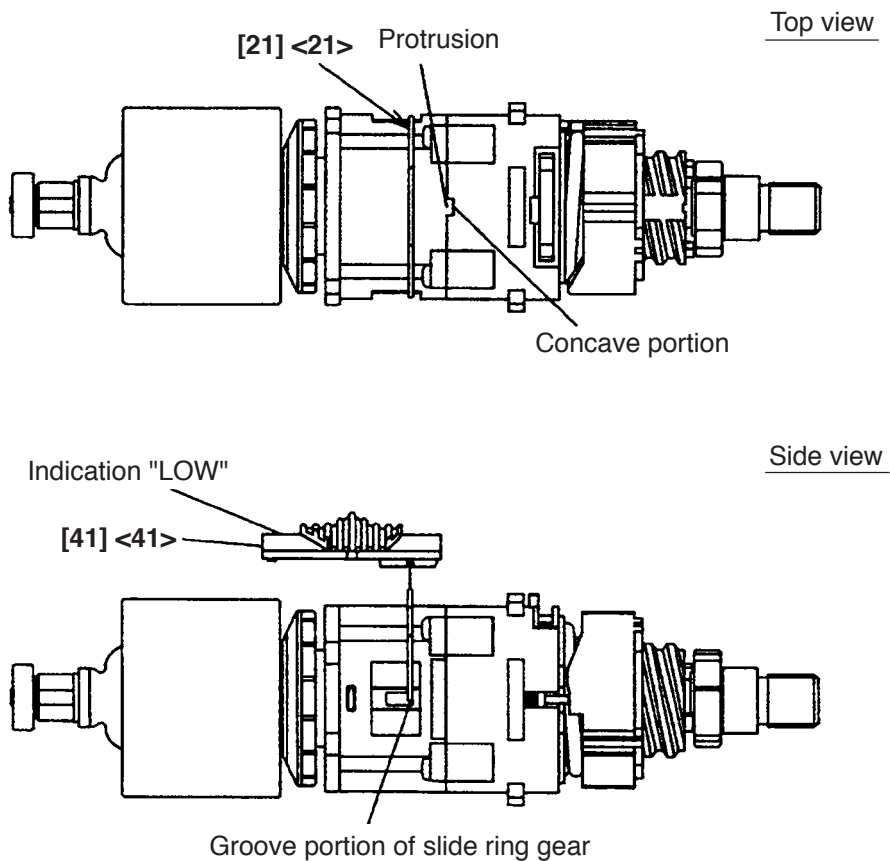

Fig. 15
- ⑤ Mount the Front Case [11] <11> to the Rear Case [20] <20> so that the concave portion of the Front Case [11] <11> aligns with the protrusion of the Rear Case [20] <20> (see Fig. 15).
- (b) Mounting the Shift Arm [21] <21> and the Shift Knob [41] <41> (see Fig. 15).